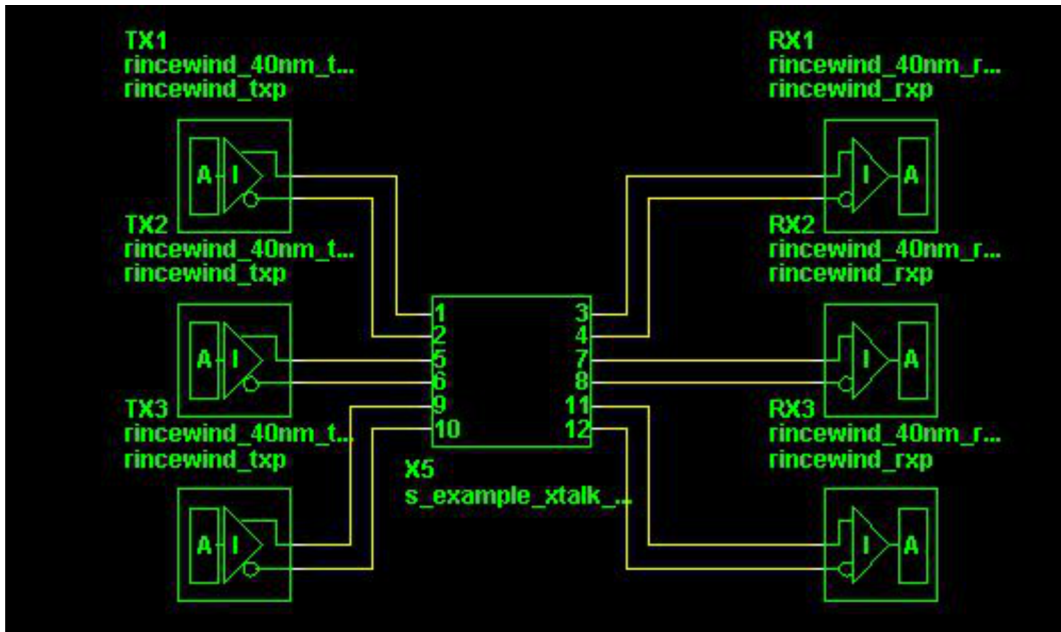

Figure 10. SiSoft QCD – Thru Simulation Schematic
3. Create a new crosstalk schematic as shown in Figure 10. This schematic shows a crosstalk simulation setup with 1 victim and two aggressors in the link setup.